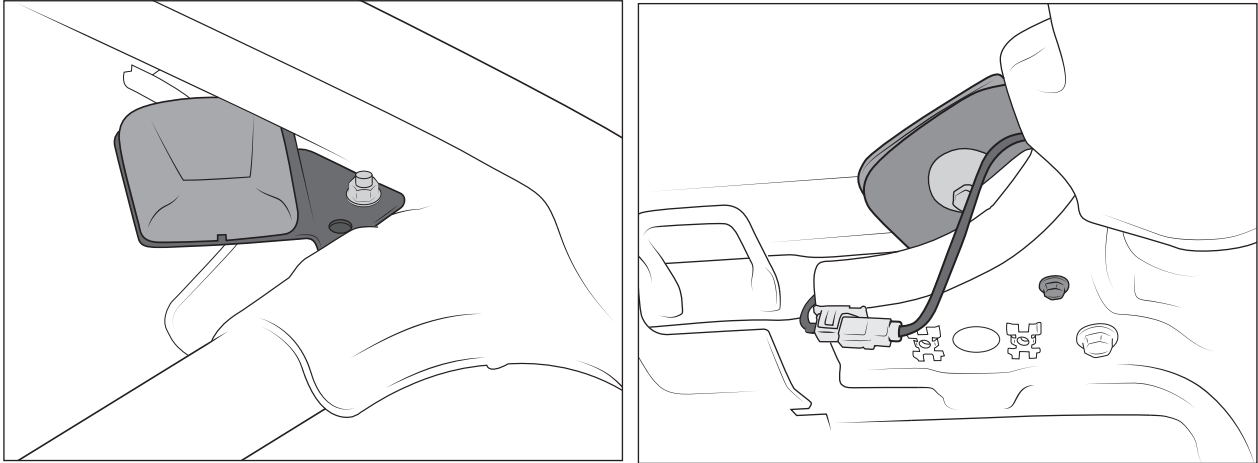

Figure 10
6. Fasten AEV bracket with satellite radio antenna to the windshield frame with the supplied bolt, nut, and washer through existing hole in the top of the A-pillar (fig. 10). **Pre-2013 JKs may or may not have this existing hole.** If your vehicle does not, you will need to drill a 5/16" hole. The remaining hole in the AEV bracket should line up with the existing hole in the A-pillar for the plastic fir-tree that secures the A-pillar trim. You can use this hole to locate the bracket on the A-pillar for drilling location.